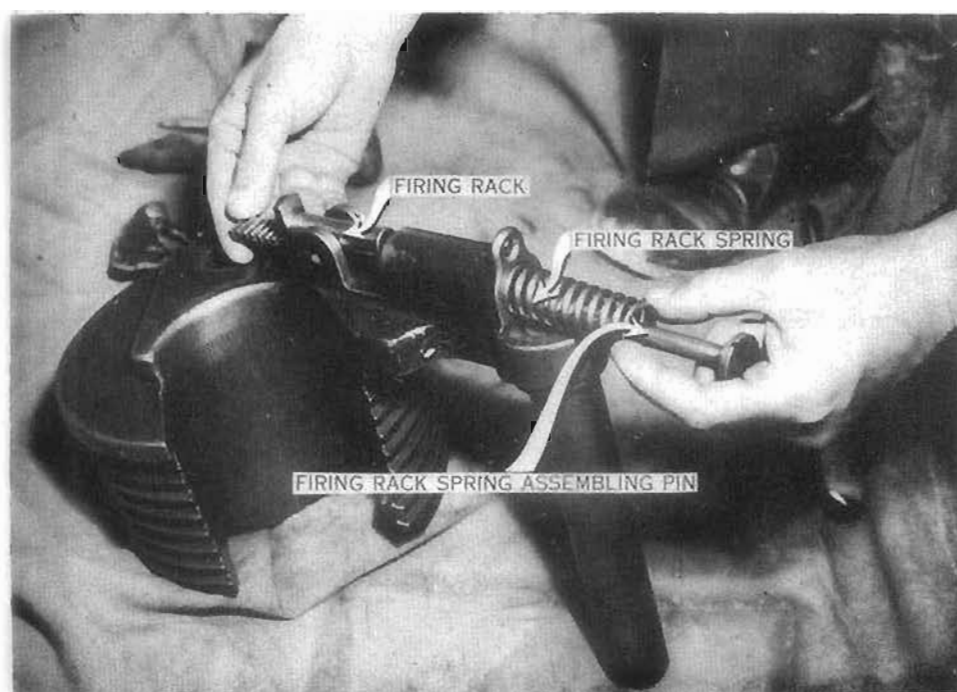

Figure 19
4. Remove firing rack spring (figs. 19 & 20).